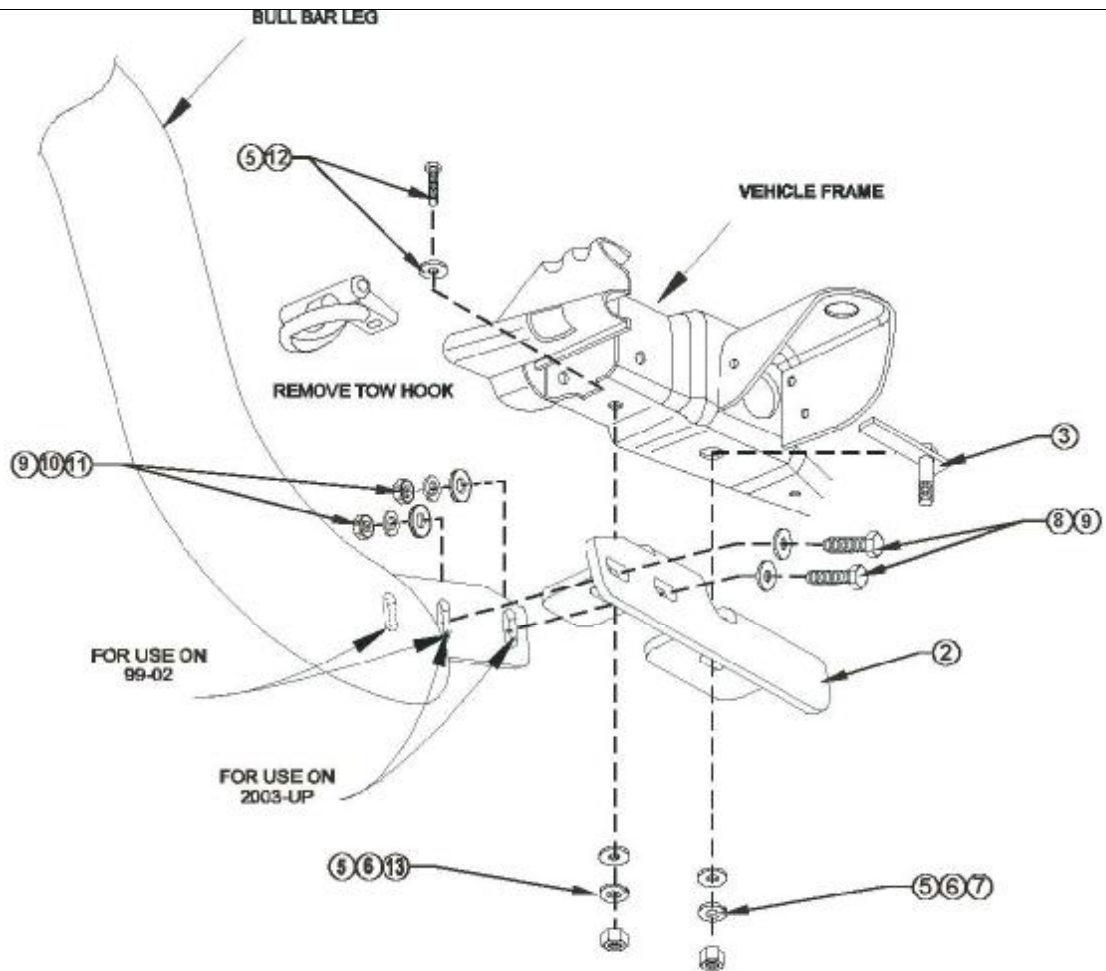

FIGURE 1 DRIVER SIDE INSTALLATION SHOWN, PASSENGER SIDE OPPOSITE
2. Determine passenger and driver brackets. From underneath vehicle, remove tow hooks. Insert bolt plates through large holes and M12-1.75 x 40mm hex head bolts through small holes in bottom frame locations. SEE FIGURE 1.
SEE FIGURE 1